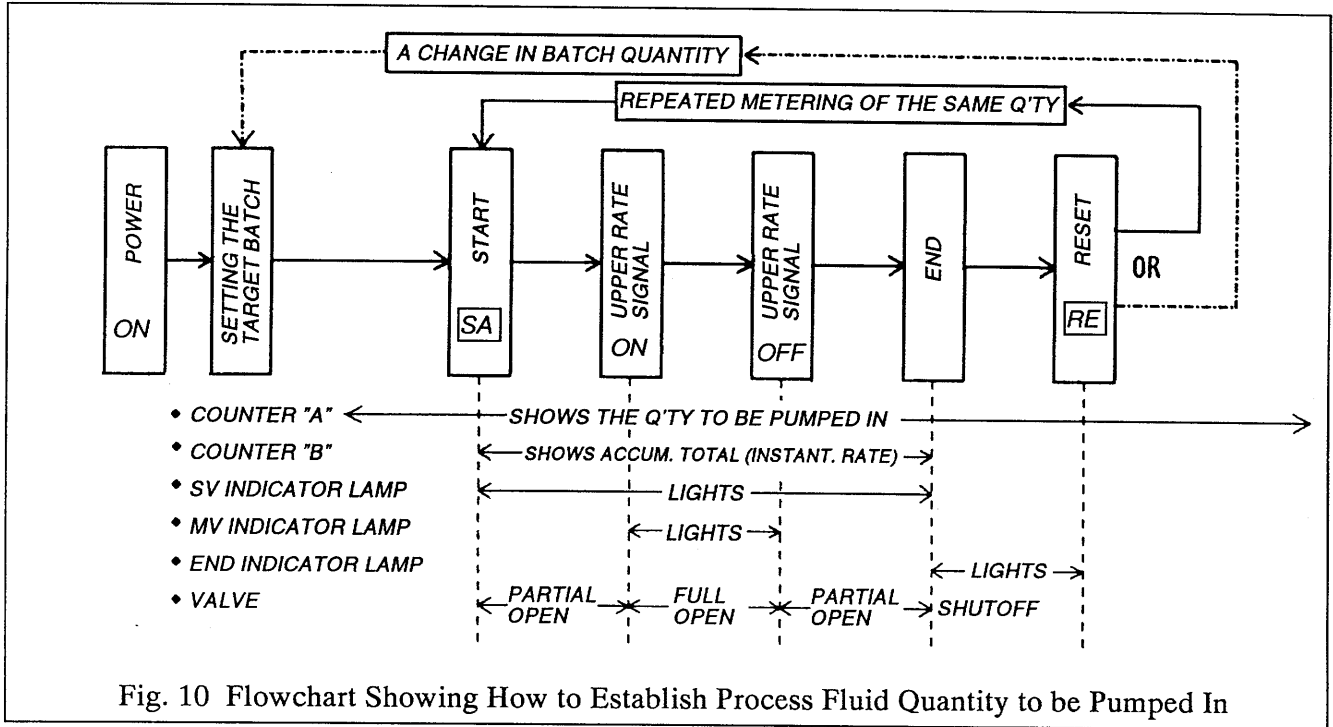

Fig. 10 Flowchart Showing How to Establish Process Fluid Quantity to be Pumped In
4. As for the stages following the setting of the quantity of process fluid to be pumped in, operation should be adhered to according to the flowchart (see Fig. 10).